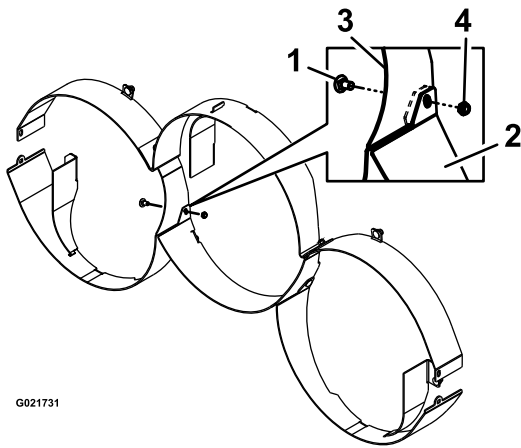

Figure 4
4. Install the rear center baffle using 2 carriage bolts (3/8-16 x 7/8 inch) and 2 locknuts (3/8-16) as shown in Figure 4.
Note: This baffle installs between the front outer baffle flanges (Figure 4).
Note: Where the front outer baffles, the rear outer baffles, and the rear center baffle come together, install 2 carriage bolts (3/8-16 x 7/8 inch) and the 2 locknuts (3/8-16) as shown in Figure 4.